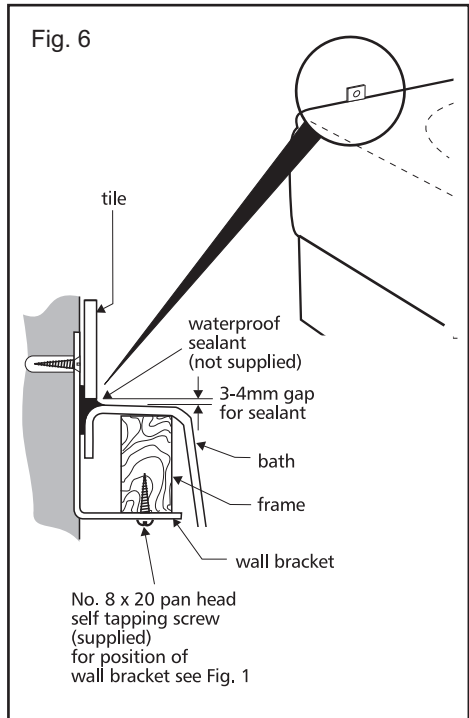

Fig. 6
9. Fix the two wall fixing brackets to bath frame as indicated in Fig. 6. Pilot drill holes in frame before fixing brackets. Note : If wall bracket fitment is not possible, then the use of wooden battens is recommended for rim support.
10. Fix bath to wall (Fig. 6)
14. Tile down to the height of the bath rim leaving a 3-4mm gap for waterproof sealant, see Fig. 6. An extruded sealing strip can be used for the bath to wall joint as an alternative to waterproof sealant. Protect bath during tiling and uneven floors.